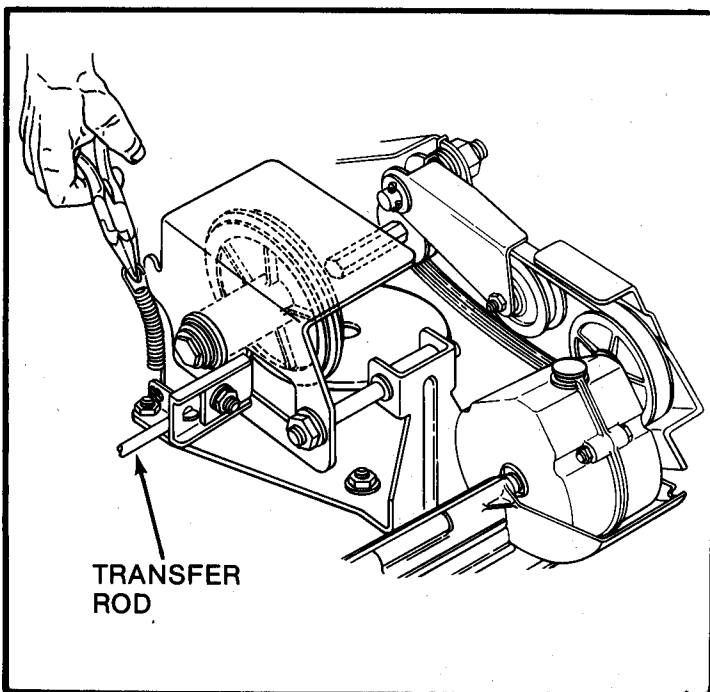
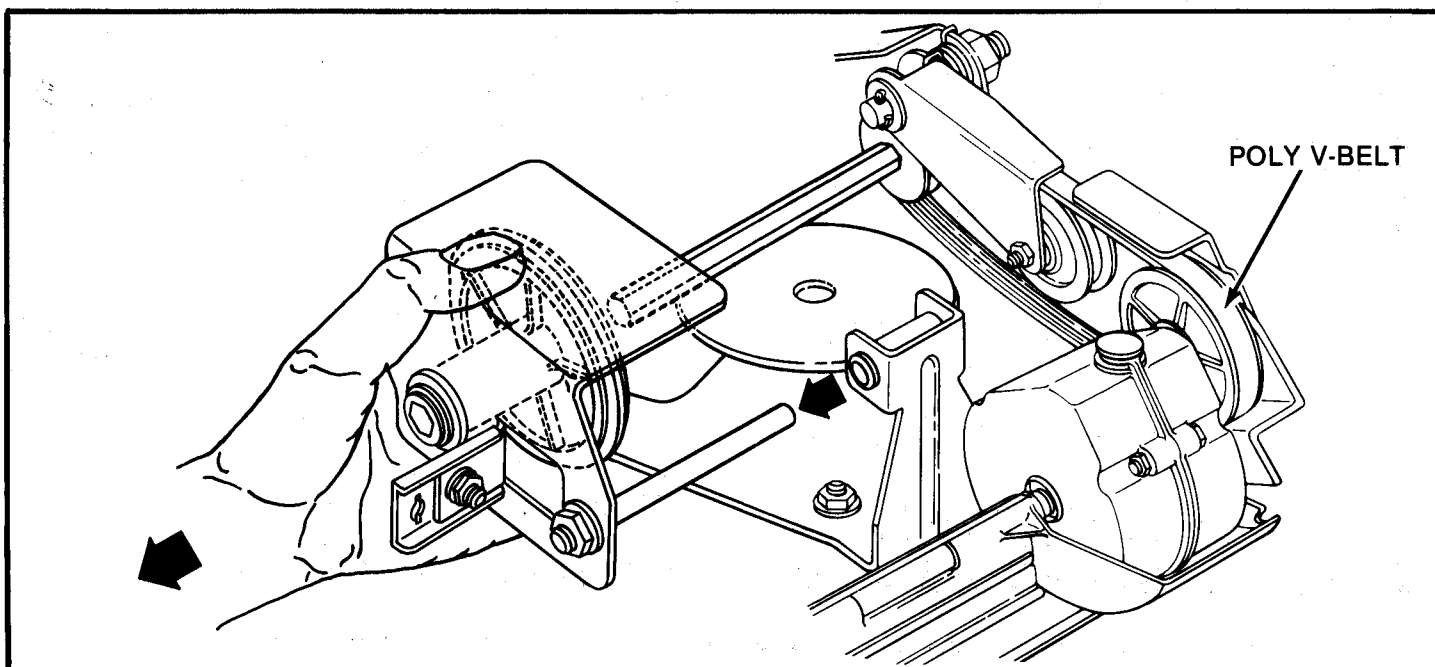

FIG 10 - UNHOOKING DRIVE SPRING
FIGURE 11 - SLIDING DRIVEN DISC ASSEMBLY OFF
If the mower does not pull properly with the wheel drive clutch engaged, check for the following: Grease on drive disc causing slippage, broken or disconnected driven assembly spring (see Figure 10), driven disc too worn to contact the drive disc properly, driven disc out of adjustment. This condition could also be caused by worn belts. If the belts are in good condition and the clutch is properly adjusted, service the drive system as follows:
**DRIVEN DISC REPLACEMENT:** If the rubber of driven disc is badly chunked or worn down to within 1/16" of the metal rim, remove the driven disc assembly and replace the driven disc as follows: Remove the clip and detach the transfer rod from the speed control lever (Figure 10). Using a pair of needle nose pliers, unhook the drive spring and slide the driven disc assembly off as shown in Figure 11. Remove the five machine screws securing the rubber driven disc and separate the worn disc from the hub. Reverse this procedure to install the replacement disc and to reconnect the drive components.